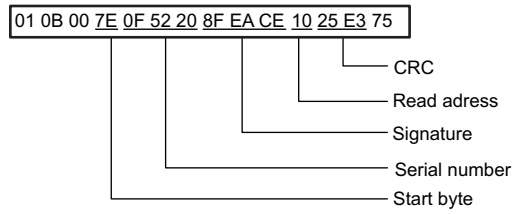

Figure 32. Listing of Transmitted Data
- Only the characters underlined in Figure 32 are transmitted over LF with LSB first.